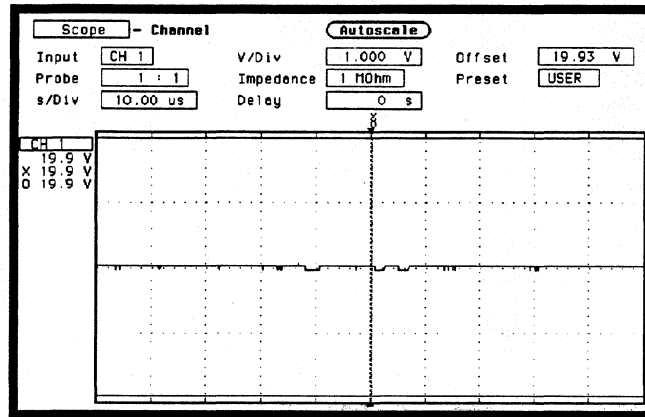

Figure 3-53. Channel Menu
9. Press **RUN** and readjust **Offset** so the trace is as close to the center horizontal line of the graticule as possible after it has settled (averaging complete) as in figure 3-53.